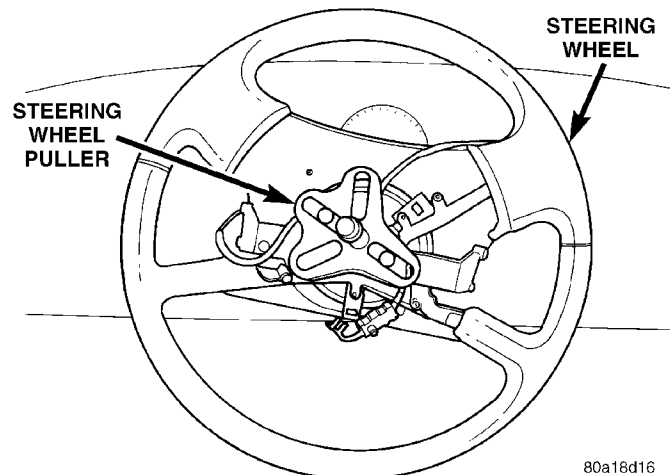

Fig. 13 Steering Wheel Puller Installed
(12) Install Puller, Snap-On CJ2001P or an equivalent on the steering wheel (Fig. 13).